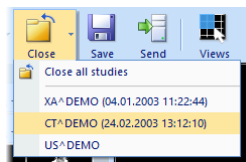

Figure 111 – Closing a selected study
- Expand the **Close** button in the main toolbar, and select the item containing the name of the study in the drop-down menu (see Figure 111).